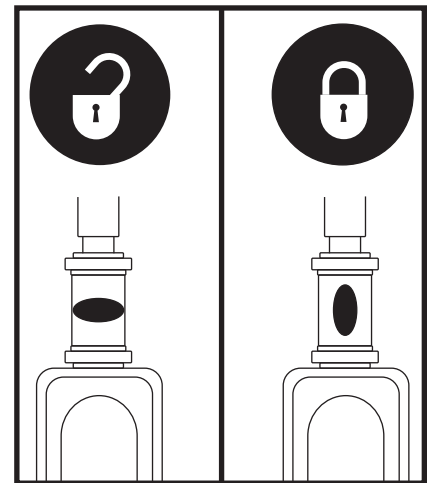

Figure 35. Tiller Lock Knob
2. Lock the tiller in the straight ahead position by pushing the tiller lock knob in and turning it clockwise 90°. See figure 35. The front wheel must face forward in order to lock the tiller.
1. Remove the key from the key switch and then lock the tiller in the straight ahead position by pushing the tiller lock knob in and turning it clockwise 90°. See figure 35. The front wheel must face forward in order to lock the tiller.
6. Unlock the tiller by turning the tiller lock knob 90° counterclockwise. **See figure 35.**